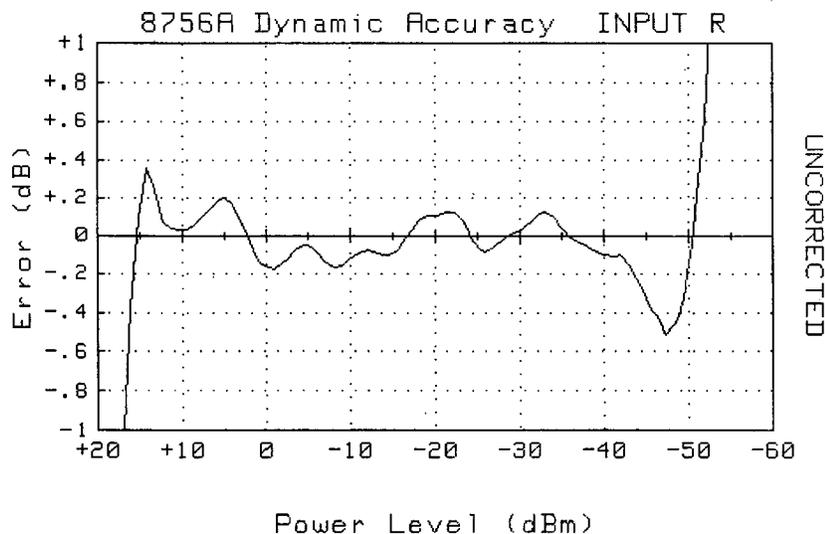

Figure 4-2. Typical Uncorrected Log Data Plot for the HP 8756A
5. When the calibrator passes the "Self Check", the controller will automatically initialize the system and generate the calibration data for the input desired. The controller generates the data by attenuating the 27.8 kHz signal from 0 dB to 130 dB in 1 dB steps. At each level of attenuation, the controller takes readings from the HP 8756A. These readings are used to create a table which characterizes the HP 8756A input being used. This uncorrected data is displayed on the CRT as a graph of dB error vs. dBm, similar to Figure 4-2. There is no error checking of the uncorrected data. Instead, the computer will ask the user if the correction data for the displayed trace should be stored.
5. When the calibrator passes the "Self Check", the controller will automatically initialize the system and generate the data for the input desired. The controller generates the data by attenuating the 27.8 kHz signal from 0 dB to 130 dB in 1 dB steps. At each level of attenuation, the controller takes readings from the HP 8756A. This data is displayed on the CRT as a graph of dB error vs. dBm, similar to Figure 4-2. Normally the program plots corrected data although the user can choose to look at uncorrected data by pressing the indicated softkey. Once plotted and if corrected data was taken, the trace is then shifted so that the specification reference point (normally 0dBm) is normalized to zero error. This is done because the HP 8756A is specified only for a relative change in power, not for absolute power accuracy.